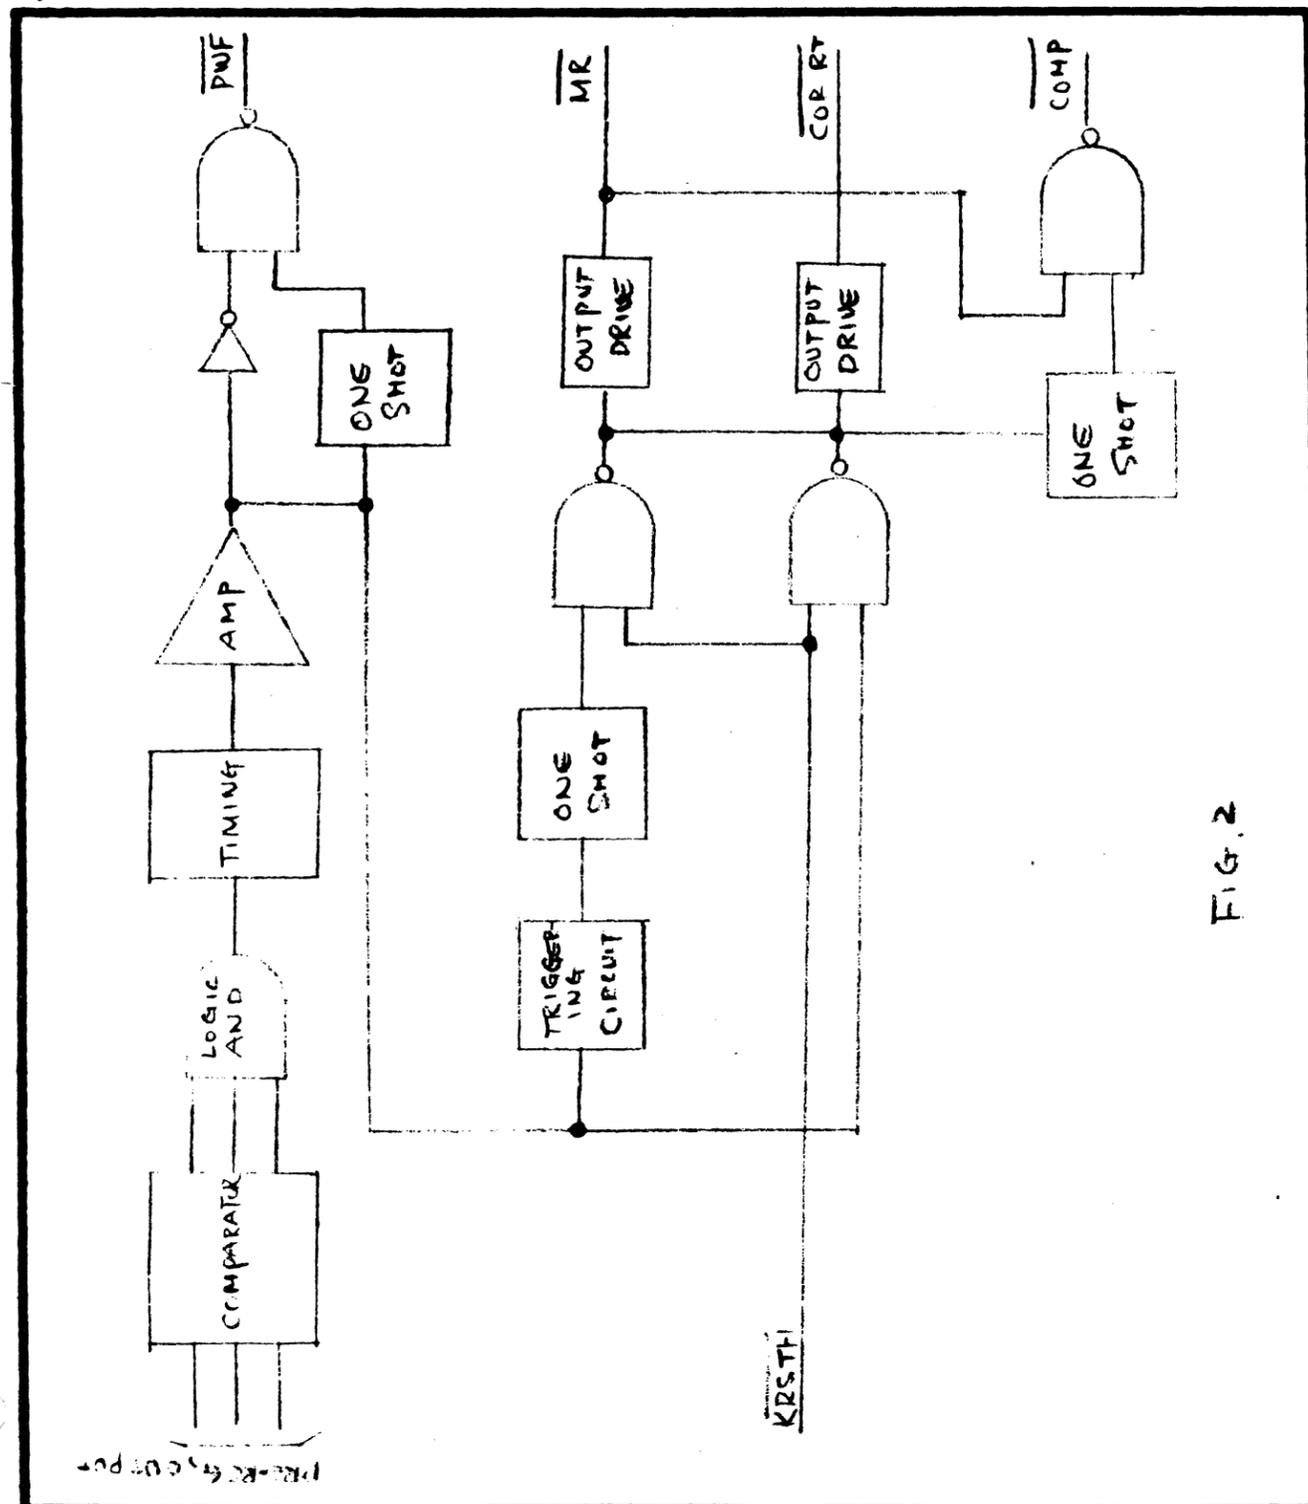

FIG. 2
The functional diagram is shown in Figure 2. When the power is on and the preregulator output voltages increase above the predetermined values, the comparator outputs change from "Low" to "High". The "And" circuit "And's" them. Then the timing circuit starts the delay operation. At the end of the delay period, the slow triggering signal is amplified. The signal is delivered to the output driver (1) through the inverter. Then,  $\overline{PWF}$  is released from "Low". Similarly,  $\overline{MR}$  and  $\overline{COR RT}$  are released from "Low" through Nand (2) - output driver (2) and Nand (2) - output driver (3). The negative-going short pulse is shown at  $\overline{COMP}$  through one shot (3) - Nand (3).